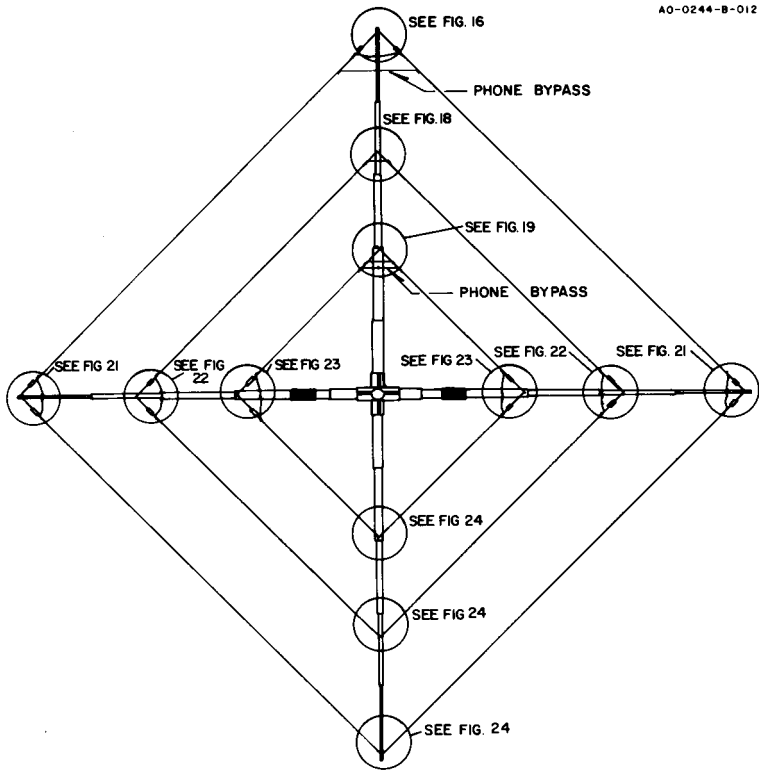
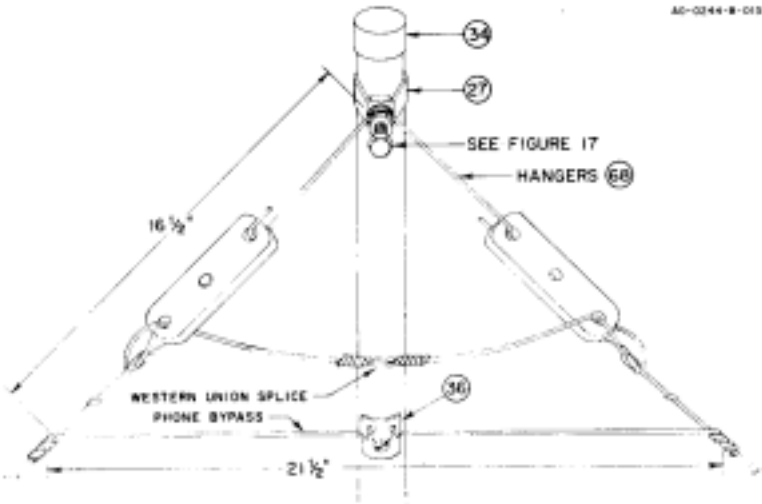
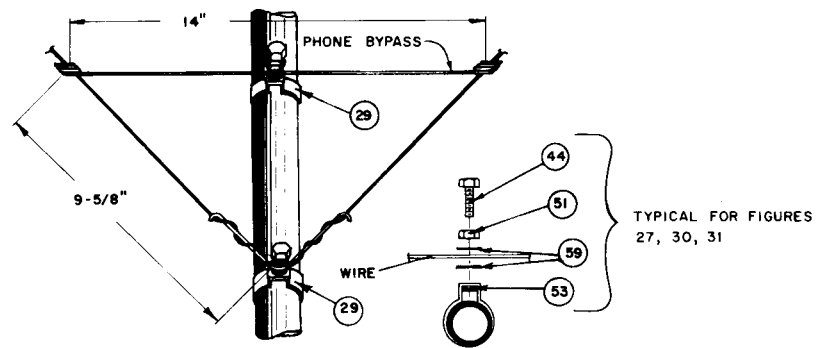

Figure 15. Driven Element Assembled
Figure 16. 20 Meter Connection to Top Spreader Arm of Driven Element
Figure 31. 10 Meter Wire Connection to Bottom Reflector Spreader Arm
3. Attach all jumper wires, i.e. phone bypass, driven element bypass etc. as shown in the detailed drawings, Figure 16 through Figure 34.
() Mount the element insulator hangers, item 68, on the element tubes. The locations for the driven element spreader arms are noted in Figure 15. Their typical mounting is shown in Figures 16, 17, 21, 22, and 23. Refer to Figure 34 for more detail.
() Beginning with the 20 meter wire on the left spreader insulator, Figure 21, wrap and tie the wire through the insulator leaving enough wire for splicing. The loop length with splice must be 9". Run the wire through the insulator on the top spreader arm, Figure 16, and connect it to the insulator on the right spreader arm as shown in Figure 21, only reversed. Your lengths must correspond to the dimensions shown in Figure 14.
For operation on the phone frequencies, the phone bypass wires should be installed exactly as shown in Figures 16 and 19 and in Figures 31, 32 and 33.
Typical of Figures 16, 21, 22, 23, 26, & 27. Unless Otherwise Specified.